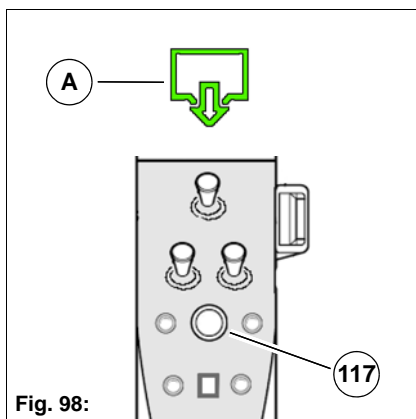

Fig. 98:
- The yellow frame around the symbol **Fig. 98-A** indicates the current activation status.